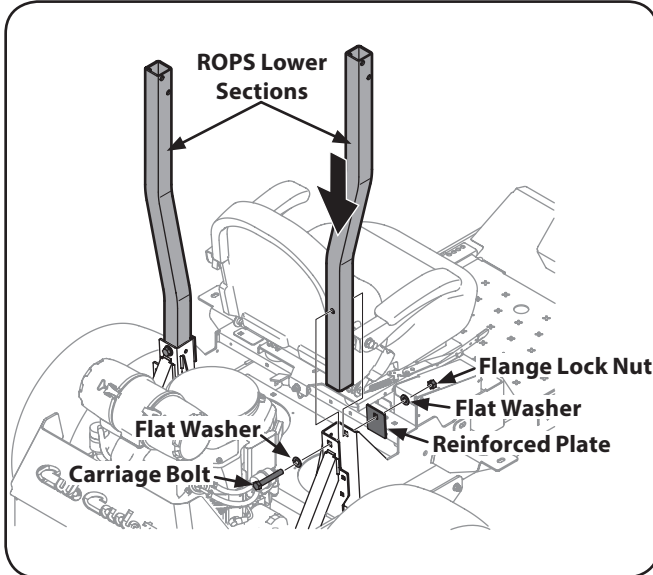

Figure 3-3
1. Insert each of the lower section ROPS tubular posts into the brackets welded to the tractor main frame. See Figure 3-3.
2. Insert the hex screws (one per side) through the flat washer then into the frame brackets and ROPS posts from the rear toward the front. See Figure 3-3. Alternately from the front toward the rear if access is restricted.
3. Install the reinforced plates and flange lock nuts, but do not tighten. See Figure 3-3.
6. Tighten the frame mounting hardware to 80-90 lb.-ft. torque. See Figure 3-3.